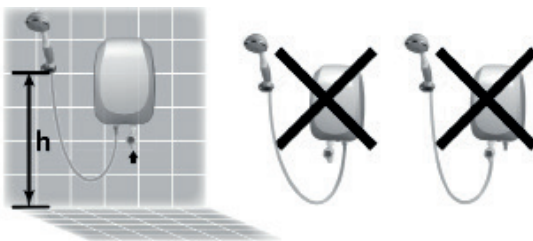

Fig.2
- Select the position for the shower head holder by taking into account the height - "h" fig.2 desired by you for the position of the shower.
### 3.1. Connection of the water heater to the water supply system (fig.2).
### 3.3. Models for the bathroom – fig. 2